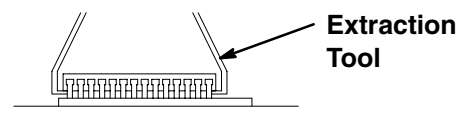

Fig. 17
5. Use an I.C. extraction tool to remove the old software chips. Pull the chips directly up. See Fig 17.